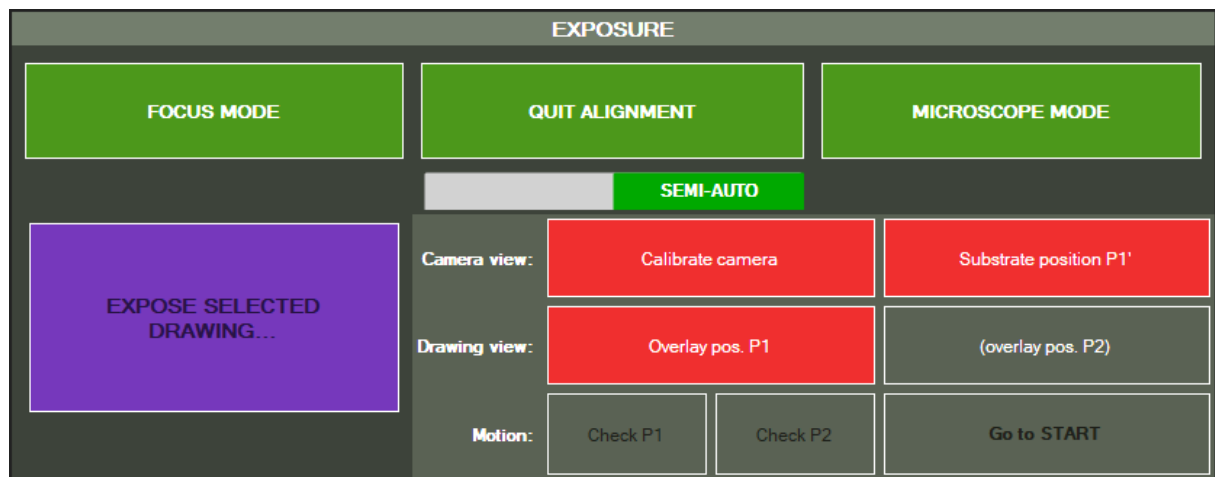

Figure 60 - Semi-automatic alignment mode
- On the **EXPOSURE** panel, click on the **ALIGNMENT MODE** and set the **toggle switch** below to **SEMI-AUTO** (Figure 60).